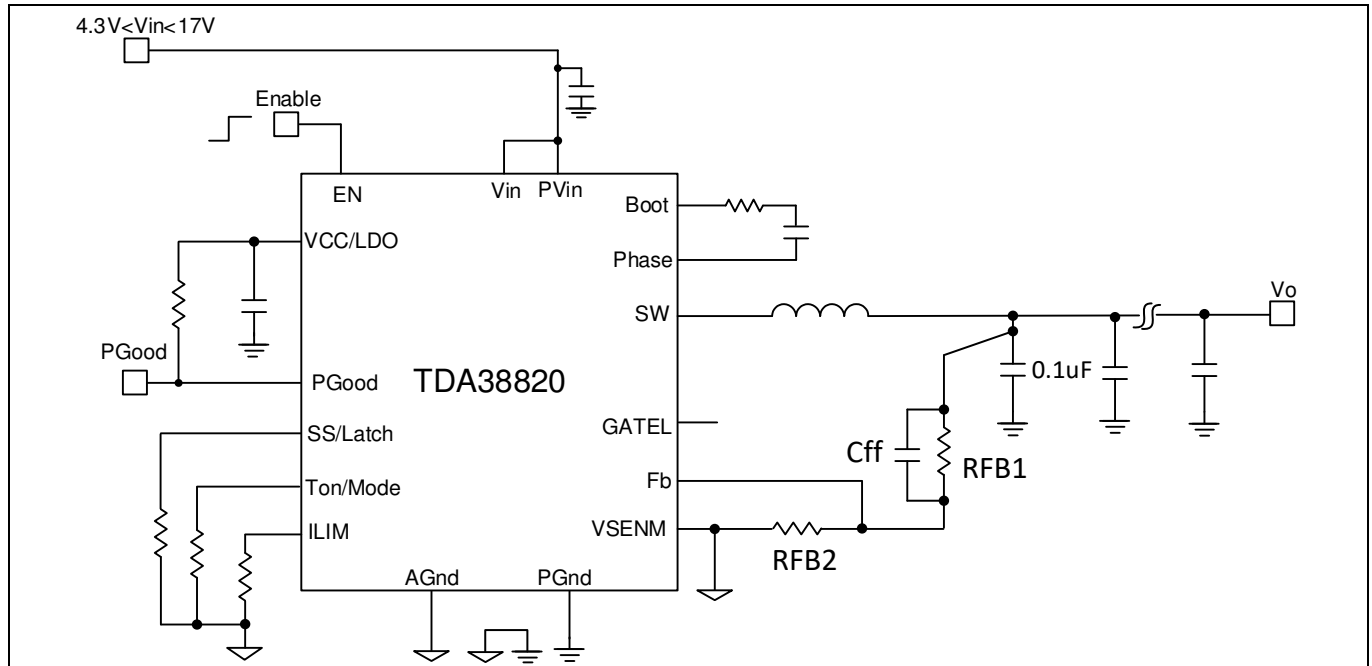

Figure 23 Single-ended V_o local sense configuration
- Single-ended V_o sensing is often used for local sensing. To implement this configuration, following design guidelines should be followed, as illustrated in Figure 23.